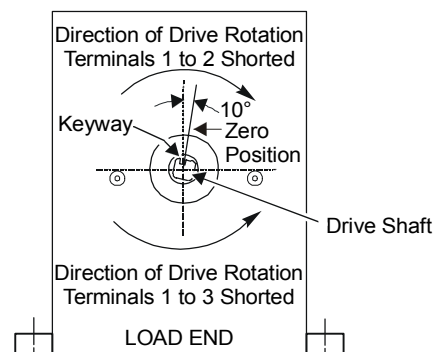

Figure 1: Direction of Rotation
The direction of rotation on all M100A models is field adjustable from 45 to 270°. The actuators are factory set at the zero position and for 90° travel. The zero position is approximately 10° Clockwise (CW) from vertical. (See Figure 1.) Spring return models return Counterclockwise (CCW) to the zero position when power is removed.
All reference to the direction of rotation is when viewing the load end stamped on the actuator housing as shown in Figure 1. From this view, the CCW limit is the zero position.